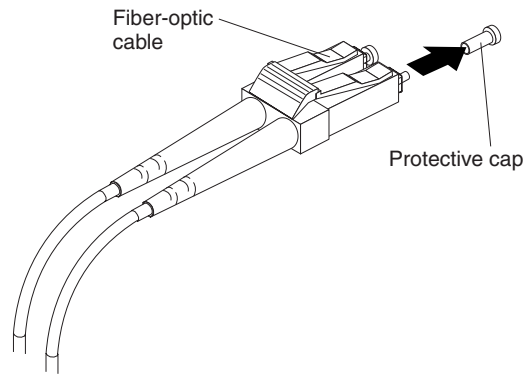

Figure 20. Removing fiber optic cable protective caps
3. Remove the two protective caps from one end of the LC-LC cable, as shown in Figure 20. Save the protective caps for future use.